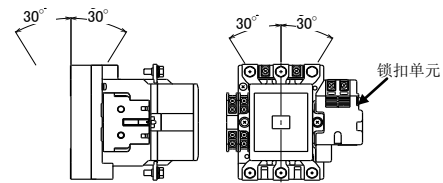

Fig.1
- 锁扣单元 (Fig. 1) 与交流接触器是在工厂内进行调整后出厂的，所以请不要进行拆卸或者更换。
- 请垂直安装。允许倾斜角度在 30° 以内。(Fig. 1)
- Do not detach the mechanical latch unit from the contactor. (Fig. 1)
- Mounting on a vertical surface. The product must not incline more than 30°. (Fig.1)